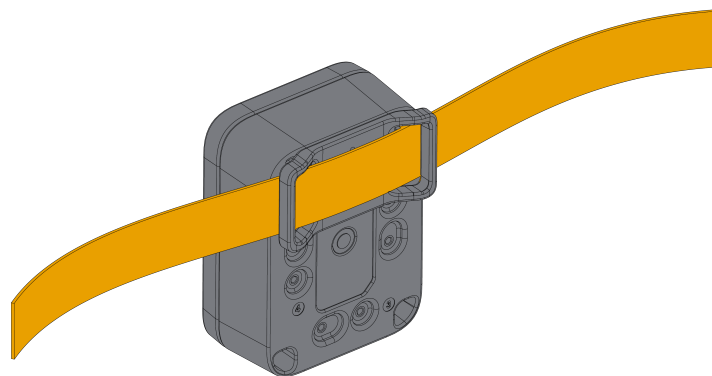

Figure 32: Fixing the enclosure on the belt thread
3. Lastly, thread the belt through the hole of the unify enclosure as shown in **Figure 32**.